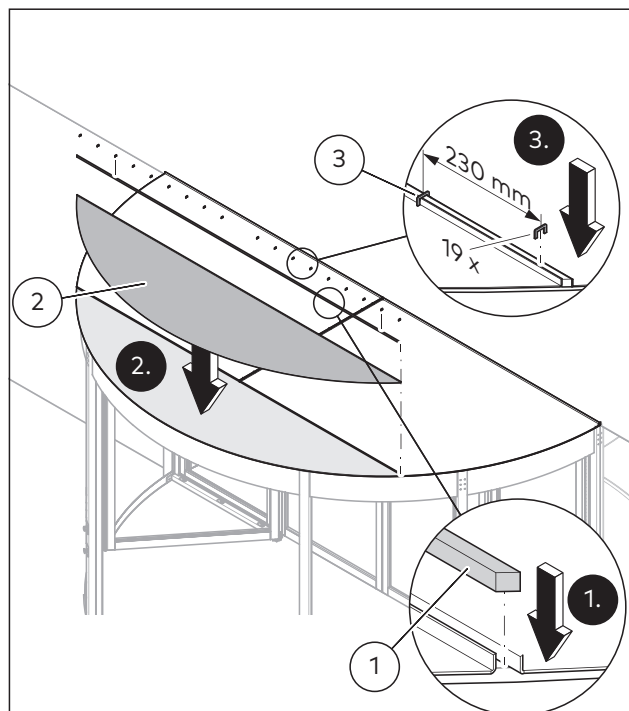

Fig. 127 Mounting the third rainproof cover part
1. Apply joint sealing tape (Fig. 127/1) next to the covers.
2. Apply glue to the wooden ceiling beneath the last cover (Fig. 127/2). Position the cover onto the glue and in its final spot. Compress the joint sealing tape between the two covers.
3. Connect the covers with clamps (Fig. 127/3) as shown every 230 mm.